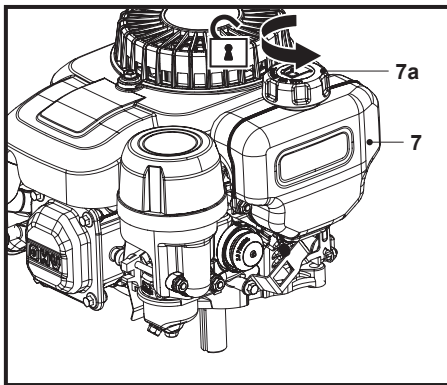

Fig. 6
3. Unscrew and remove the fuel tank cap (7a) (Fig. 6).